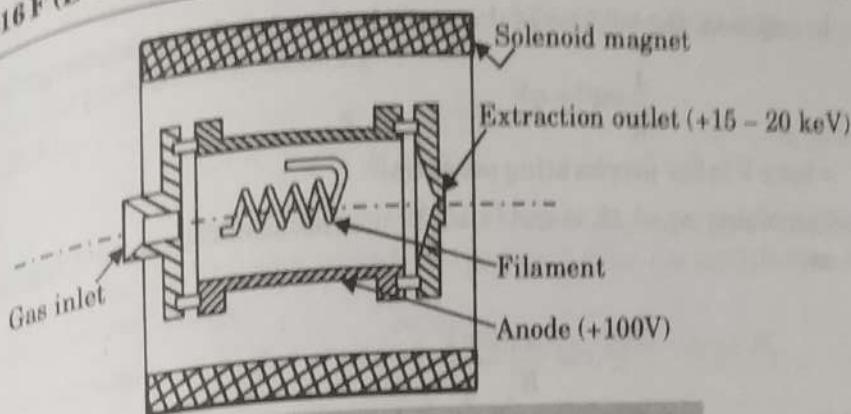

Fig. 4.14.1. A Nielsen-type gaseous source.
9. Fig. 4.14.1 shows a sketch of a gas-fed ion source and illustrates many of the features described here.